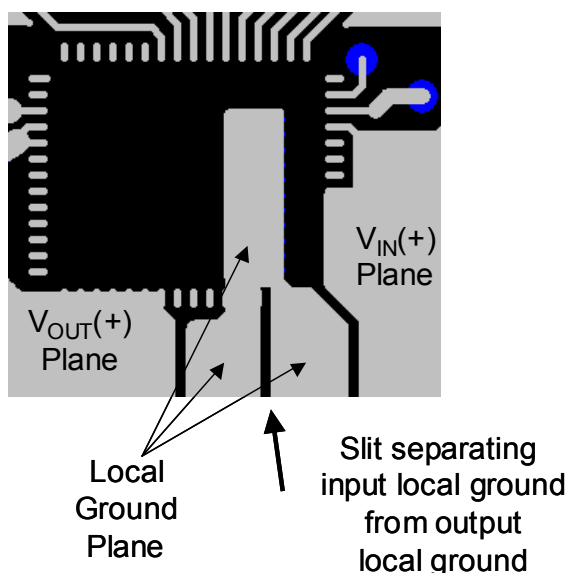

Figure 7. Layout of power and ground planes.
**Recommendation 2:** Place a slit in the input/output capacitor ground plane just beyond the common connection point of the GND pins of the device as shown in figure 7.